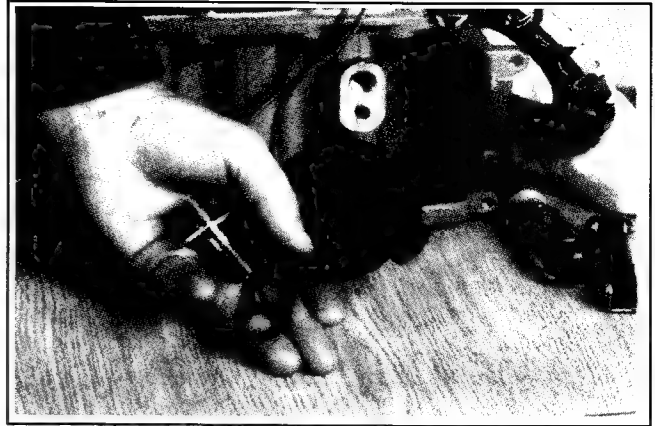

Figure 9-40. Oil Filter Adapter and Nipple.
2. Remove the oil filter adapter as shown in Figure 9-40.